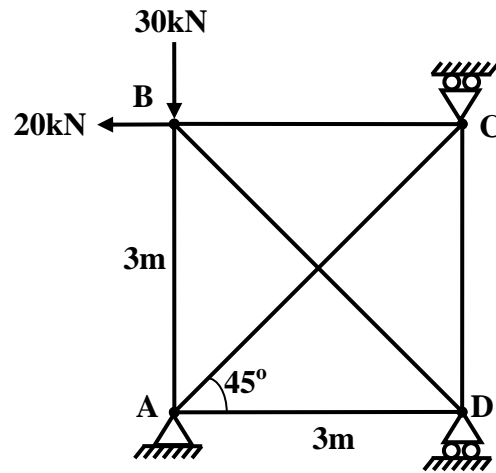

Fig. 6
7. Determine any one support reaction and any one member force for the plane truss shown in fig.6.